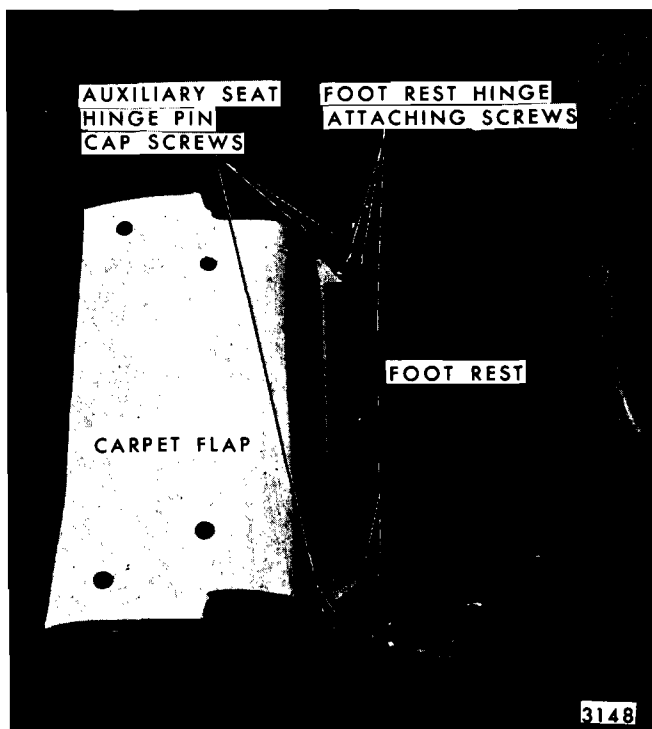

Fig. 15-62—Auxiliary Seat Assembly - Removal and Installation - Cadillac Limousine Styles
2. Move rear seat foot rest rearward; then, un-snap carpet flap. Move foot rest forward and carefully pull carpet flat from under foot rest, as shown in Figure 15-62.
3. Remove foot rest hinge attaching screws (Fig. 15-62) and remove foot rest assembly.
4. Remove auxiliary seat hinge pin cap screws (Fig. 15-62); then remove cap and auxiliary seat assembly.